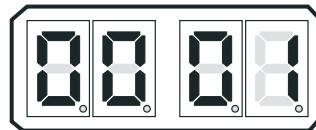
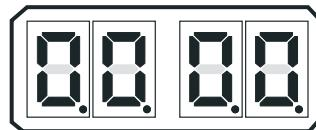

Figure 10-12: Example Display Station A/D’s Transfer Button Depressed for Stations 1 - 4
Figure 10-13: Display Station A/D/s Transfer Button Depressed for Station 5
- B For Stations 1 - 4 when the Transfer Button is depressed, the **0** which represents that remote station, will change to a **1** as shown in Figure 10-12: Example Display Station A/D’s Transfer Button Depressed for Stations 1 - 4. For Station 5 when the Transfer Button is depressed, all four decimal points will light as shown in Figure 10-13: Display Station A/D/s Transfer Button Depressed for Station 5